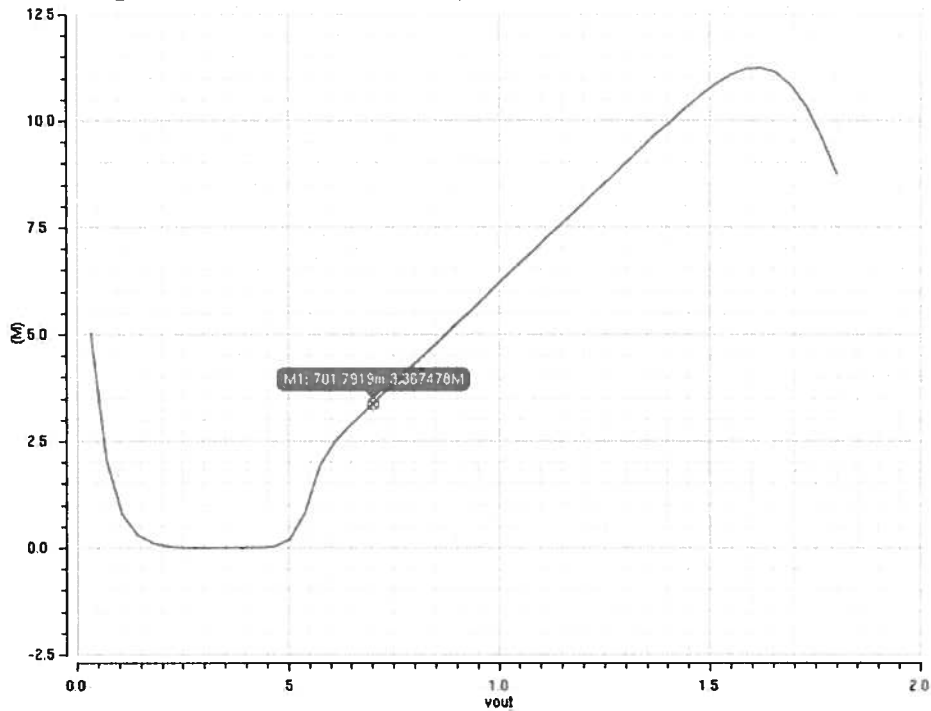

Fig. 3
3. The low frequency output impedance dependency on  $V_{out}$  is shown as Fig. 3. It can be seen that the output impedance is greater than  $3.37M \Omega$  for output voltage greater than 0.7V.